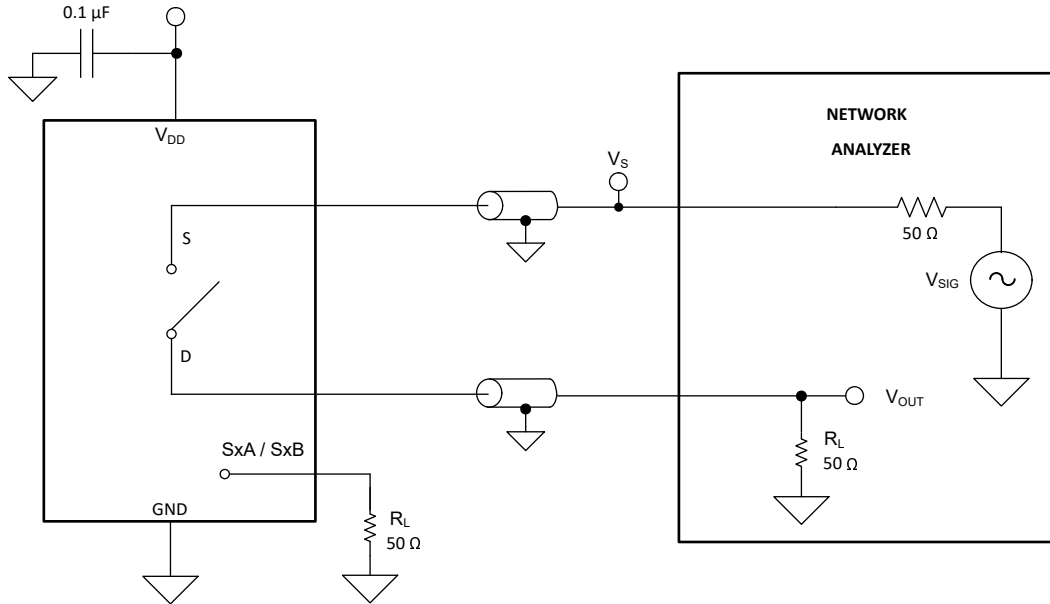

Figure 7-13. Off Isolation Measurement Setup
Off isolation is defined as the ratio of the signal at the drain pin (D) of the device when a signal is applied to the source pin (Sx) of an off-channel. Figure 7-13 shows the setup used to measure, and the equation used to calculate off isolation.